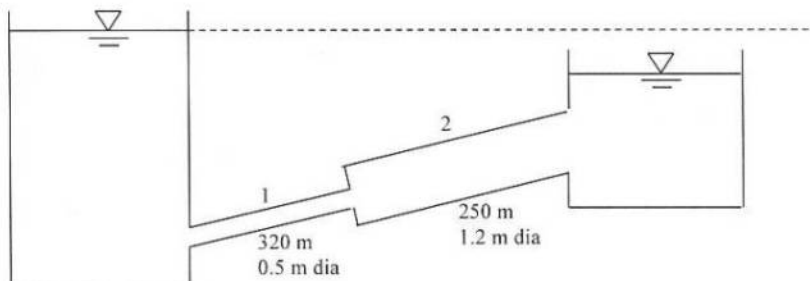

Figure 8
- 7.(a) A pipeline 50 m long is connected to a water tank at one end and discharges freely into the atmosphere at the other end. For the first 20 m of its length from the tank, the pipe is 20 cm in diameter and its diameter suddenly enlarges to 35 cm. The height of water level in the tank is 15 m above the center of the pipe. Considering all losses of head that occurs, determine the rate of flow. Assume $f = 0.025$ for both the pipes. (7)
- (b) Two reservoirs with a difference in water surface elevation of 10 m are connected by two pipes in series as shown in Figure 8. The equivalent roughness heights of the two pipes are 2.5 mm and 0.5 mm respectively. Considering all losses of head that occur, find discharge by equivalent velocity head method. Given $\nu = 3 \times 10^{-6} \text{ m}^2/\text{s}$. Use Moody diagram for friction factor (See Figure 10). (12)